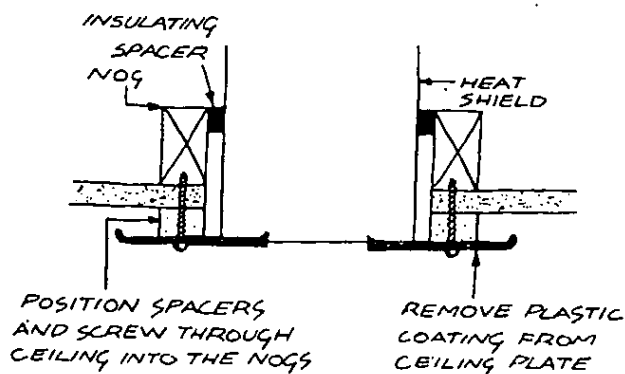

FIGURE 19
2.1.7 Insert the assembled flue upwards through the Heat Shield and fit the notched flue onto the outlet flange, making sure that the flue seam is towards the wall. Slide the Ceiling Plate up and screw it to the ceiling, using the spacers provided to keep the Ceiling Plate clear of the ceiling, Figure 19, making sure that the gap between the Ceiling Plate and flue is even all around. The protective plastic coating may now be peeled from the Ceiling Plate.